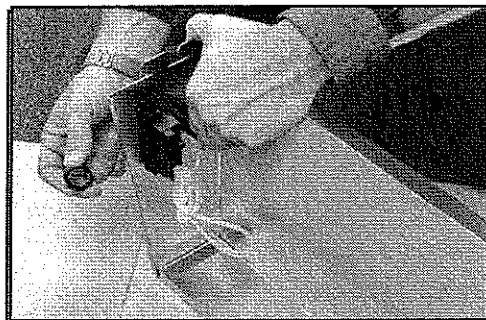

Fig. 8
3. Insert the threaded section of the ignitor through the hole in the left shelf and secure to shelf using the lock nut. Tighten Securely. (See Fig. 8)